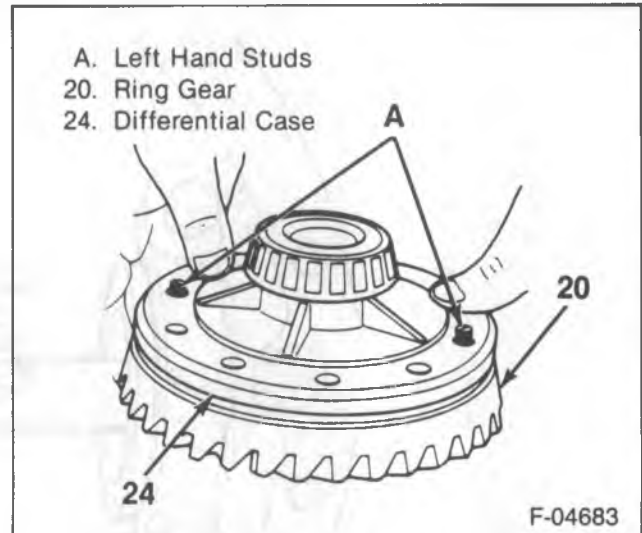

Figure 17—Aligning the Ring Gear Studs
1. Side gear thrust washers (19) to the side gears (22).
2. Side gears (22) to the differential case (24).
3. Pinion gears (21) to the differential without the thrust washers (20).
4. Pinion thrust washers (20).
5. Ring gear (7) to the differential case (24).
- Thread two left-hand threaded studs into the ring gear on opposite sides (figure 17).